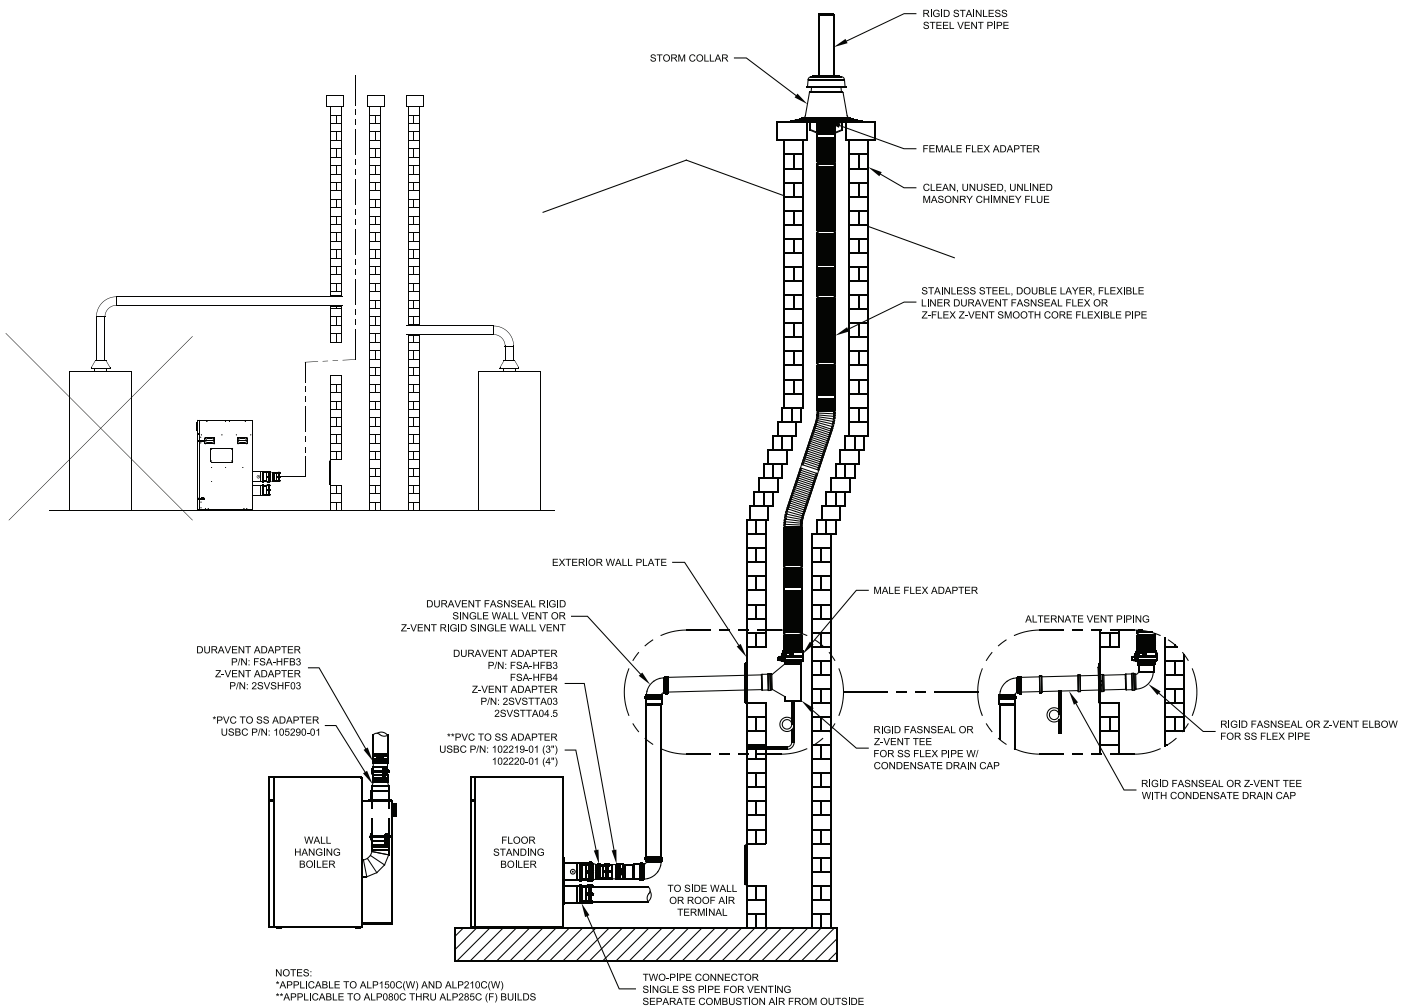

Figure 17A : Flexible Stainless Steel Vent in UNUSED Masonry Chimney with Separate Combustion Air Intake
- b. Refer to Figure 17A for details of chimney chase installation.